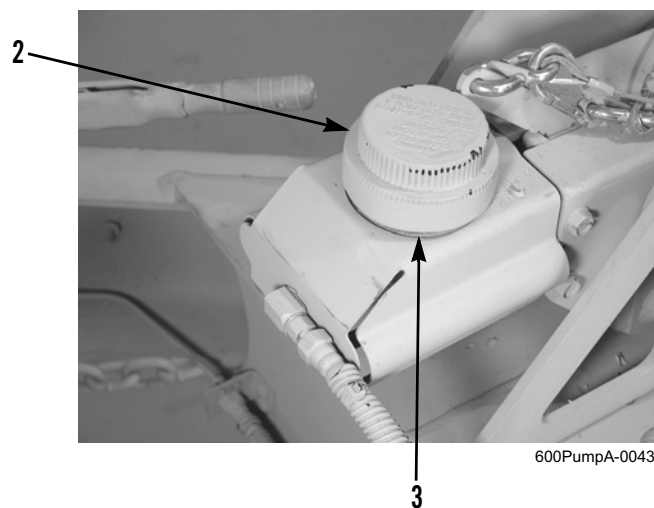

Figure 14. Master Cylinder and Cap.
11. Remove cap (Figure 14, Item 2) from master cylinder (Figure 14, Item 3). Ensure brake fluid level is within 1/8 in. (0.32 cm) of top of reservoir. Add brake fluid, as required. Reinstall cap on master cylinder.